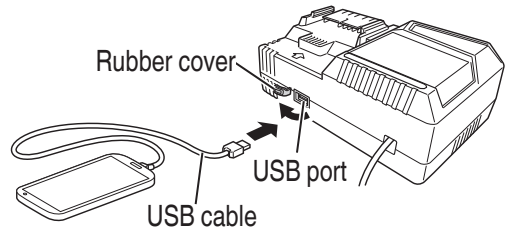

Fig. 8
- (2) Connect the USB cable. (**Fig. 8**)